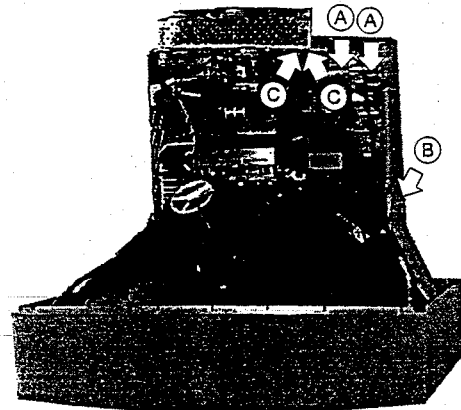

Figure 2-2 Remove the Main Board & Neck Board
1. Disconnect the two connected pins from the main board. Refer to the figure 2-2 (A).
2. Remove the screw at the holder (R). Refer to the figure 2-2 (B).
3. Disconnect the two ground wires from the neck shield. Refer to the figure 2-2 (C).